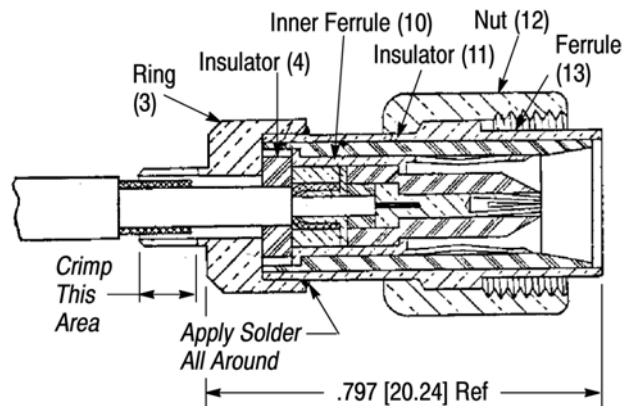

Figure 7
Position nut (12) and ring (3) as shown in Figure 7.
Using small pliers, crimp slotted section of ring (3) as shown in Figure 7.